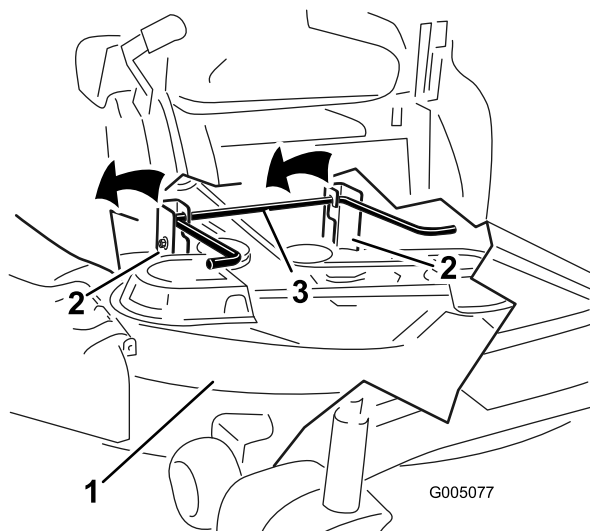

Figure 67
5. Lift the rear of the mower deck and guide the hanger brackets over the rear lift rod (Figure 67).
6. Lift the mower deck and hanger brackets clear of the rear lift rod and lower the mower carefully to the ground (Figure 67).
5. Position the spring on the rod as shown in Figure 67 so that the shorter spring end comes from under the rod before the bend and going over the rod as it returns from the bend.